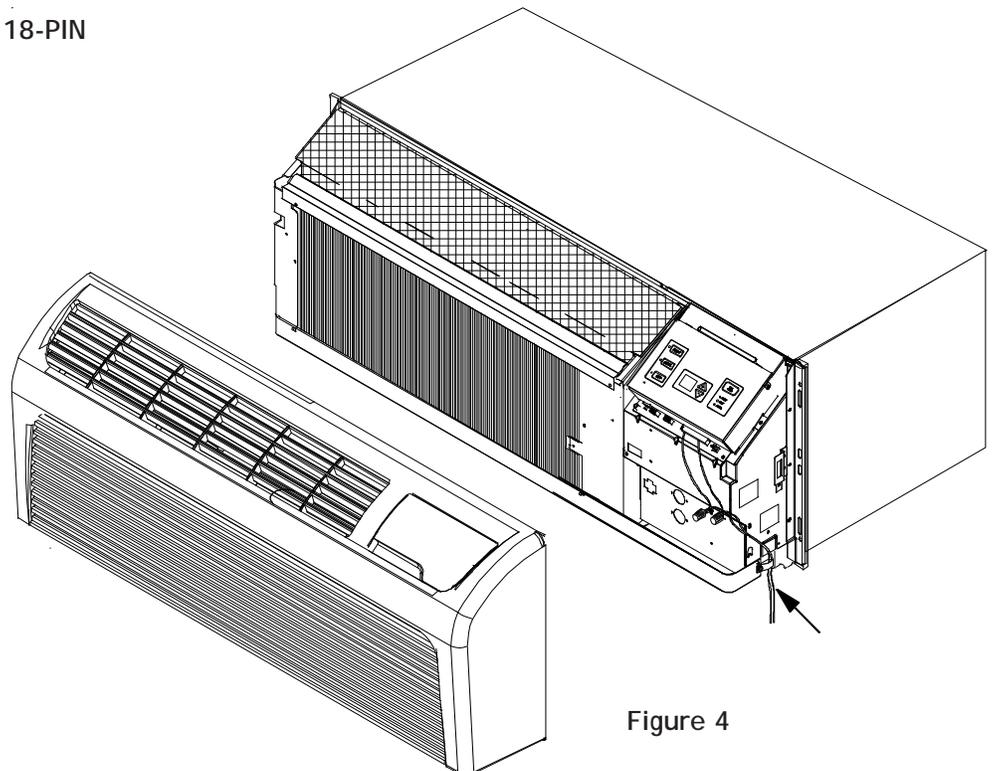

Figure 4
3. Connect the kit wiring to the field wiring using the wire nuts provided. Route the kit wiring as shown in Figure 4. Do not run wires through basepan or wall sleeve.